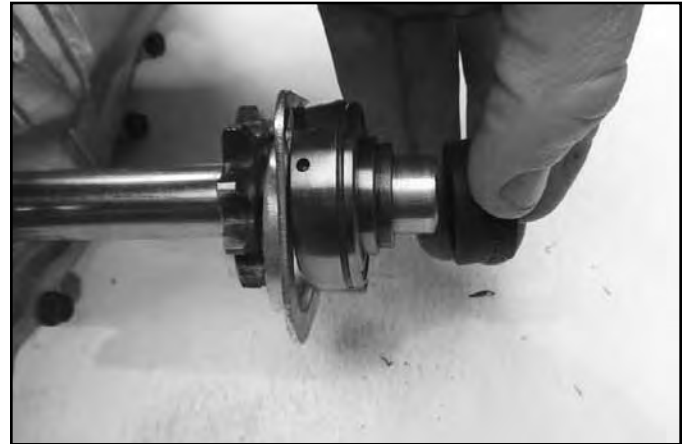

Fig. 113
- Remove the lock collar (Fig. 113).